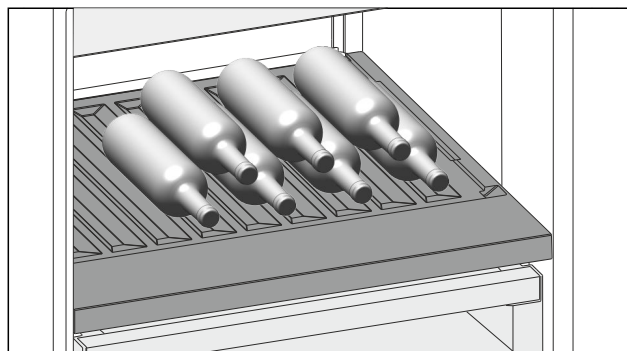

Fig. 90
- Place bottles in the back row with their bases against the back wall. (see Fig. 90)